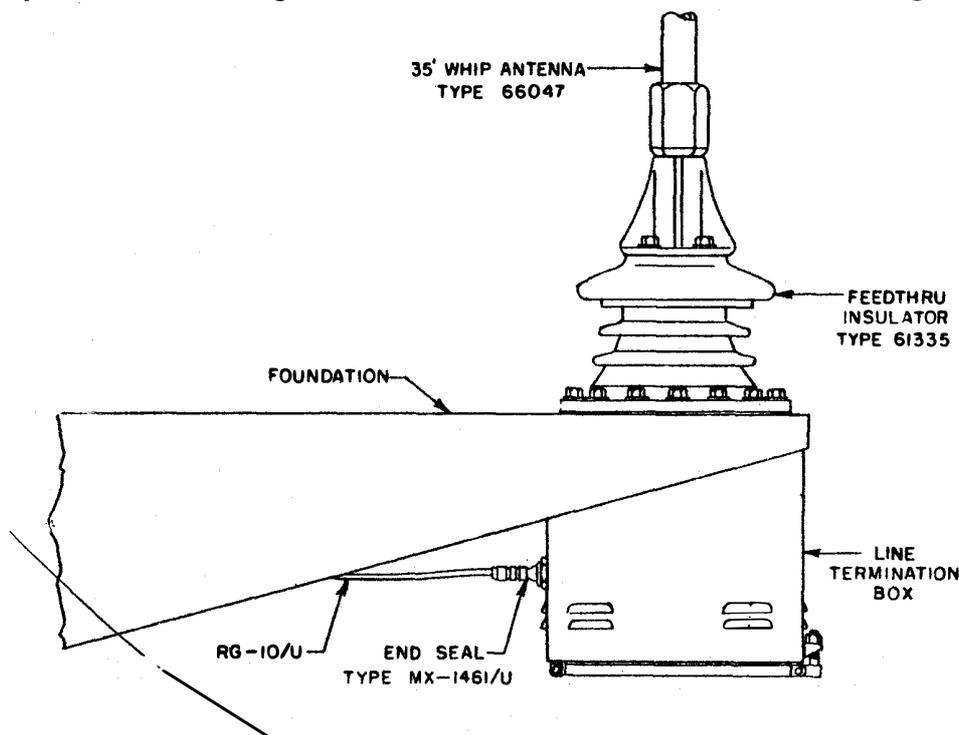
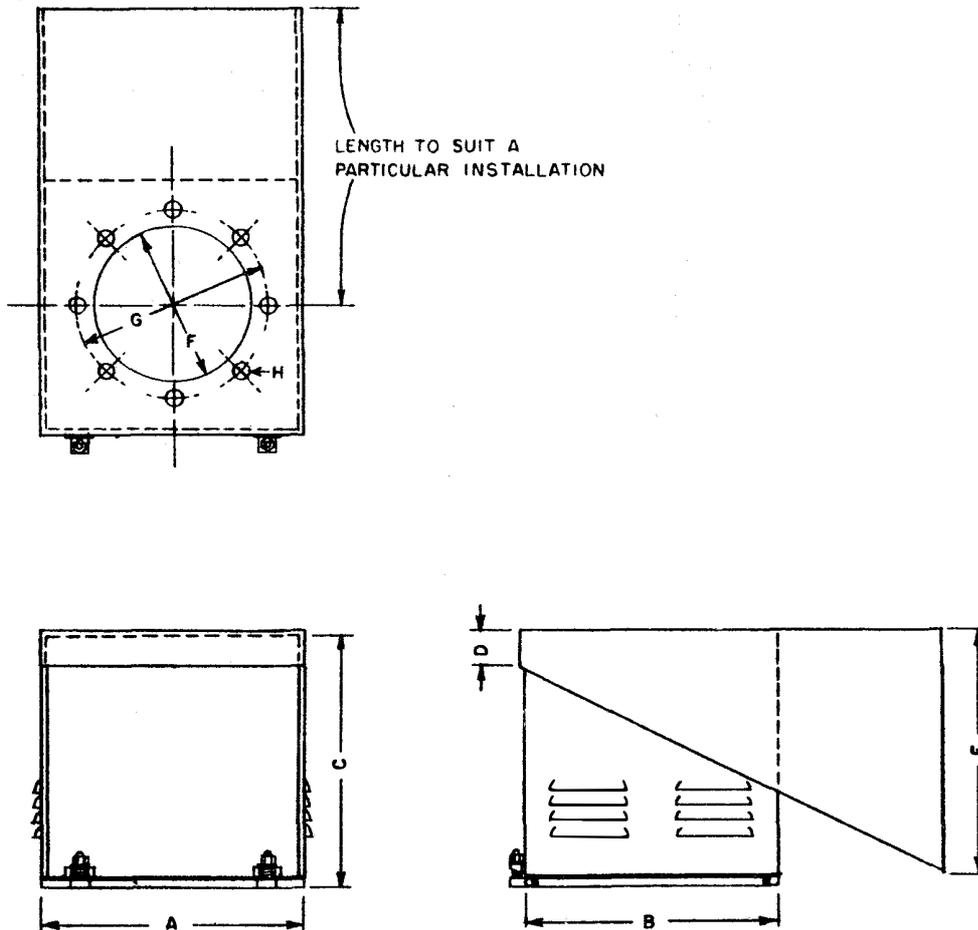

Figure 2-37. Recommended Method for Mounting a Whip Antenna
Figure 2-38. Details of Whip Antenna Termination Box
b. PREFERRED METHOD. - The preferred method for mounting whip antennas on shipboard is shown in Figure 2-37. The antenna is mounted on an antenna supporting insulator such as Navy Types 61428, 61335 and 61350. The Navy Types 66046 and 66047 whip antennas are self-supporting; when they are mounted in the above manner, they require no other brackets or clamps to support them. However, the Type 66053 whip antenna does require additional bracing.
The recommended method for terminating RG-10/U or similar types of solid-dielectric cable at whip antennas is also shown in Figure 2-37. A suitable termination box must be fabricated by the installing activity to enclose the base of the supporting insulator. The size of the box is determined by the size and type of supporting insulator used. Details of this termination box will be found in Figure 2-38. To prevent moisture condensation inside the box, it is recommended that the walls of the box be made with louvers in them. A hole one inch in diameter must be drilled in the side of the termination box for mounting the MX-1461/U End Seal. A short flexible lead connects the inner-conductor stud of the end seal to the stud of the supporting insulator. The necessary lugs are supplied with the end seal and insulator. This flexible connection is satisfactory for permanently mounted whips; however, for demountable whips which must be secured, a suitable quick-disconnect arrangement should be used.
c. ALTERNATE METHODS.—Several alternate methods for mounting whip antennas are shown in Figures 2-39 and 2-40. Many whip antennas presently installed on shipboard will be found mounted according to one of these methods; however, the Bureau of Ships has recommended that in the future all whip antennas be installed as shown in Figure 2-37. In all cases, a termination box with end seal should be used to enclose and protect the connection of the transmission line to the whip antenna.